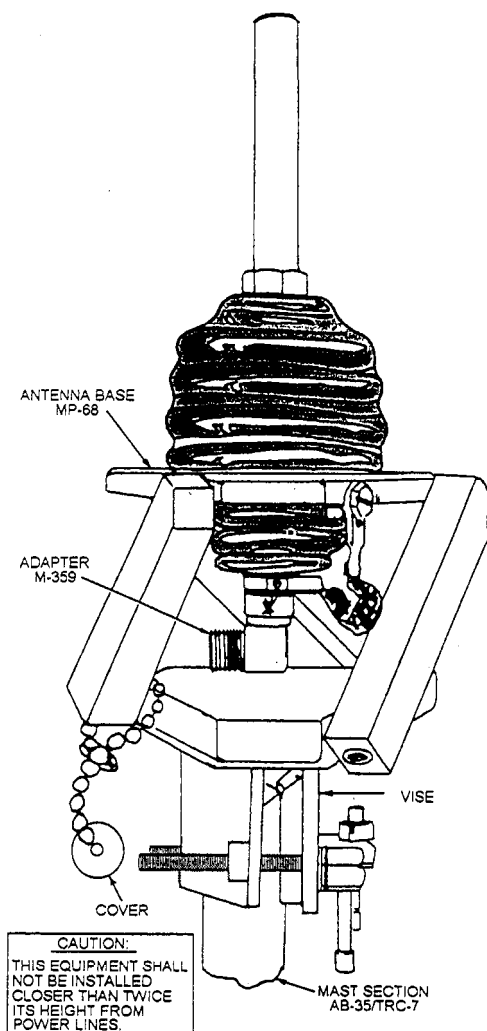

Figure 11-14.—Antenna base MP-68 mounted on mast.
2. Antenna Base MP-68. The MP-68 (fig. 11-14) is comprised of a ceramic feed-through insulator, sockets for mounting the antenna elements, an M-359 adapter, and a vise. The feed-through insulator permits the vertical radiating antenna element socket to be connected through the M-359 adapter to the center conductor of the CG-107/U. The three ground-plane sockets and the outer conductor of the CG-107/U connect to the metal framework of the antenna base. The vise enables the antenna base to be clamped to the top of the supporting mast assembly.